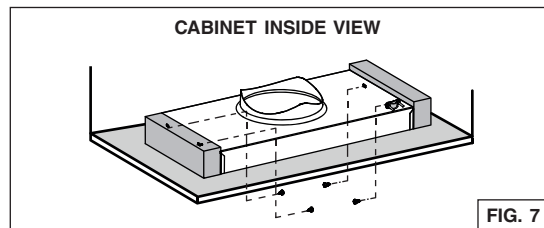

FIG. 7
5. Insert the power module in the cabinet (Fig. 7) and secure to the wood blocks previously installed using (4) wood screws included in parts bag (2 screws per side).